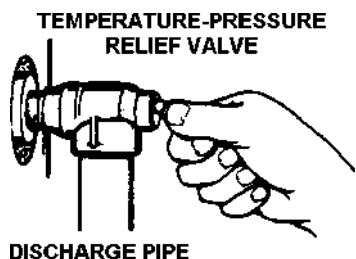

FIGURE 20.
When checking the temperature-pressure relief valve operation, make sure that (1) no one is in front of or around the outlet of the temperature-pressure relief valve discharge line, and (2) that the water discharge will not cause any property damage, as the water may be extremely hot. See Figure 20.